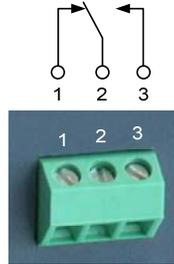

Figure 6: Wiring diagram for each relay.
For each relay, the centre terminal (2) is the common input, the left terminal (1) is the normally-closed output and the right terminal (3) is the normally-open output. Figure 6 shows the wiring diagram.